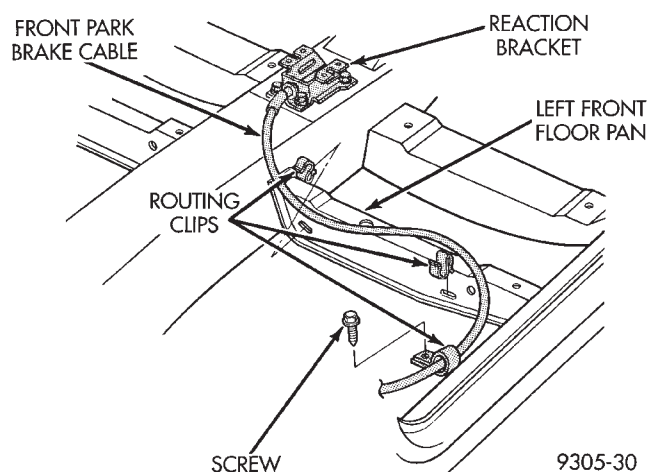

Fig. 24 Front Park Brake Routing And Clipping Locations
(7) Install the park brake cable routing clip to floor pan attaching screw (Fig. 24). Torque the routing clip to floor pan attaching screw to 4 N•m (35 in. lbs.). Install front park brake cable into routing clips on floor pan crossmember.